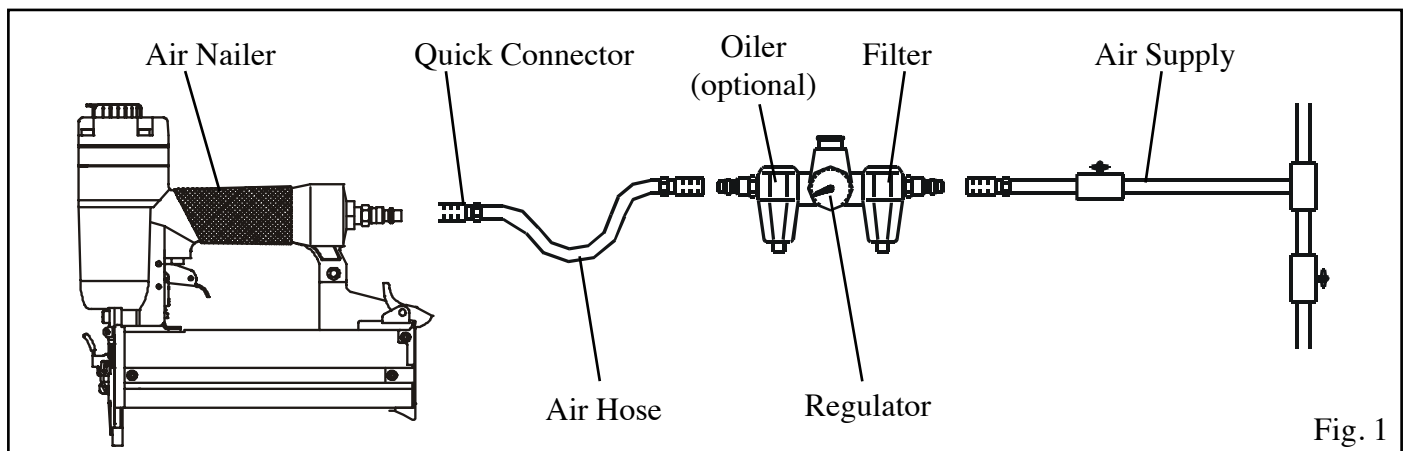

Fig. 1
Before using it, attach the air line and desired air system accessories. See Fig. 1 for the recommended accessories and connection order. Be sure the air hose is depressurized when installing or removing adapters to the air line.
2. Turn the compressor on and set the Regulator (Fig. 1 - Regulator) to the proper pressure according to the size and type of fastener being used. The air pressure range should be within 60 PSI to 100 PSI.
3. Connect the tool to the Air Supply (Fig. 1).